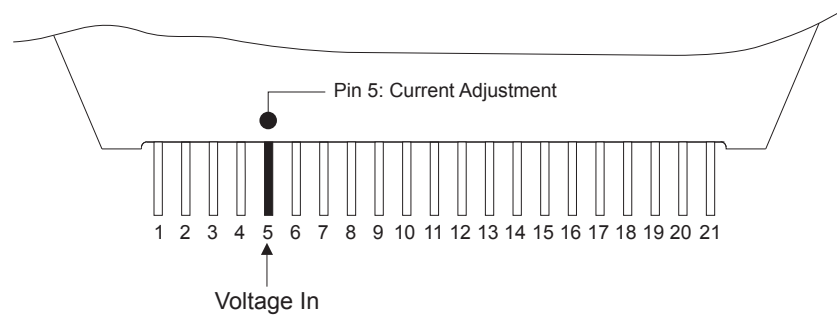

Figure 6.3: Current Adjust Voltage
- By applying an external reference voltage to Pin 4 (Figure 6.3).